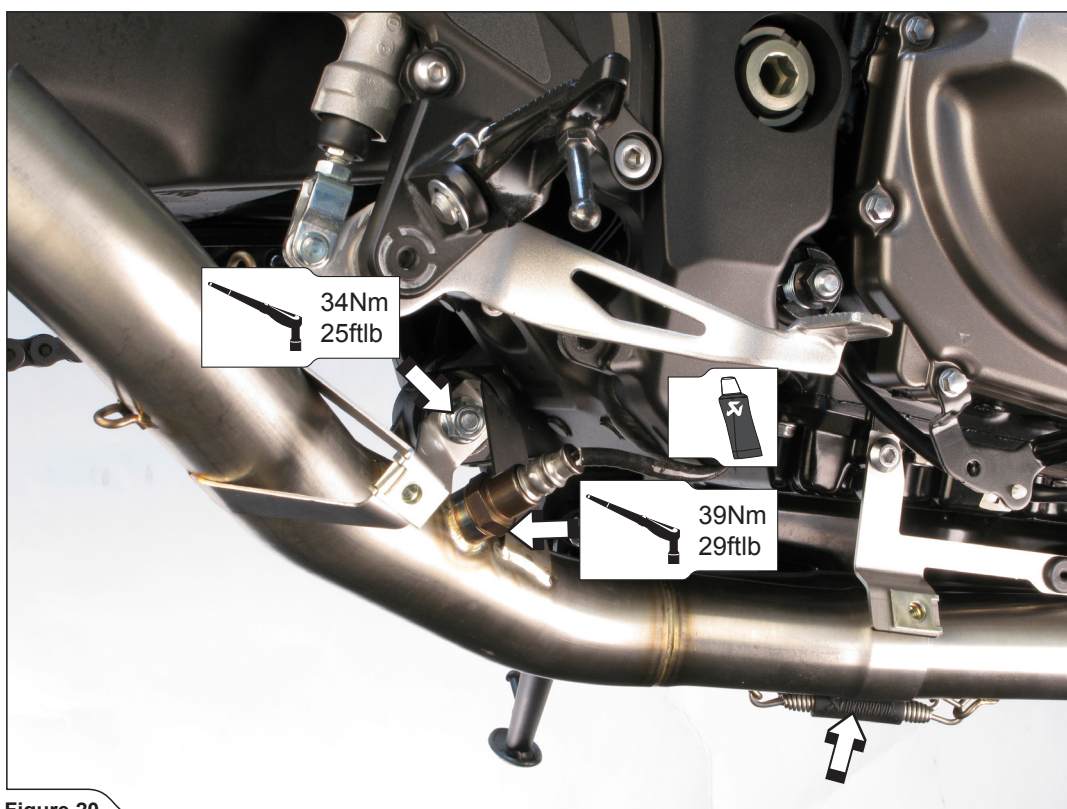

Figure 20
6. Slide the link pipe all the way onto the collectors. Attach the springs, tighten the link-pipes' bracket onto the frame (using M10x55 bolt and nut from Akrapovič installation kit) and lambda sensor to a specified torques (Figure 20).